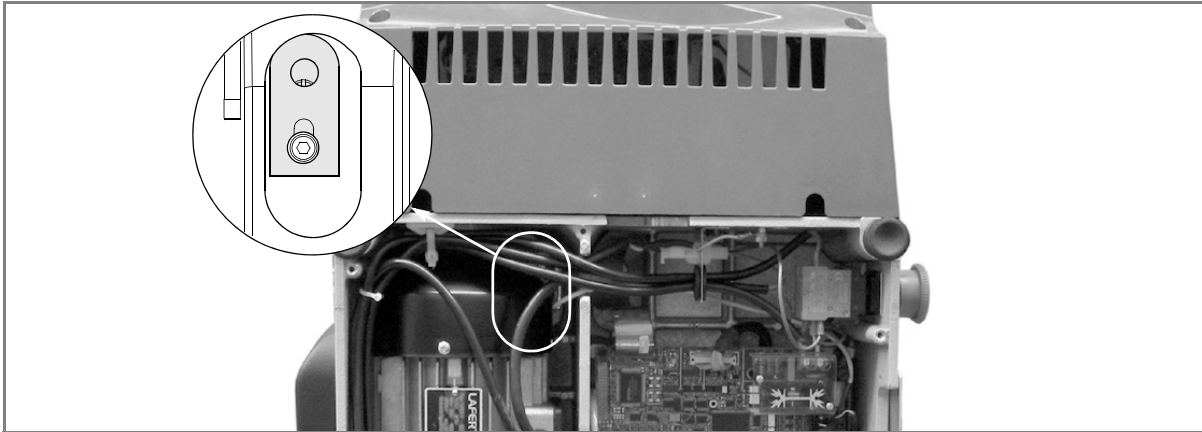

Fig. 54
- 3) disconnect the X axis sensor's connector from the electronic circuit board (fig. 54).